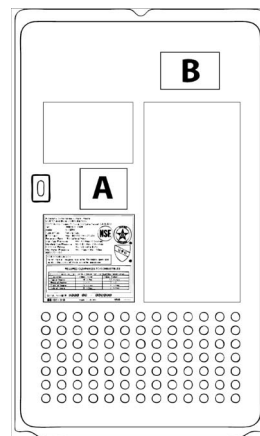

Fig. 8 660 EF appliances stickers
- ▶ 3. Place the sticker indicating the new inlet and manifold pressures directly above the rating sticker so as not to cover any existing markings as indicated by "A" in Fig. 8.
- ▶ 4. Fill out the required information on the remaining sticker indicating the date, gas type, kit number, and name of the company performing the conversion. Place this sticker on the front cover as indicated by "B" in Fig. 8 and 9 (unit depending). Do not cover any existing markings.